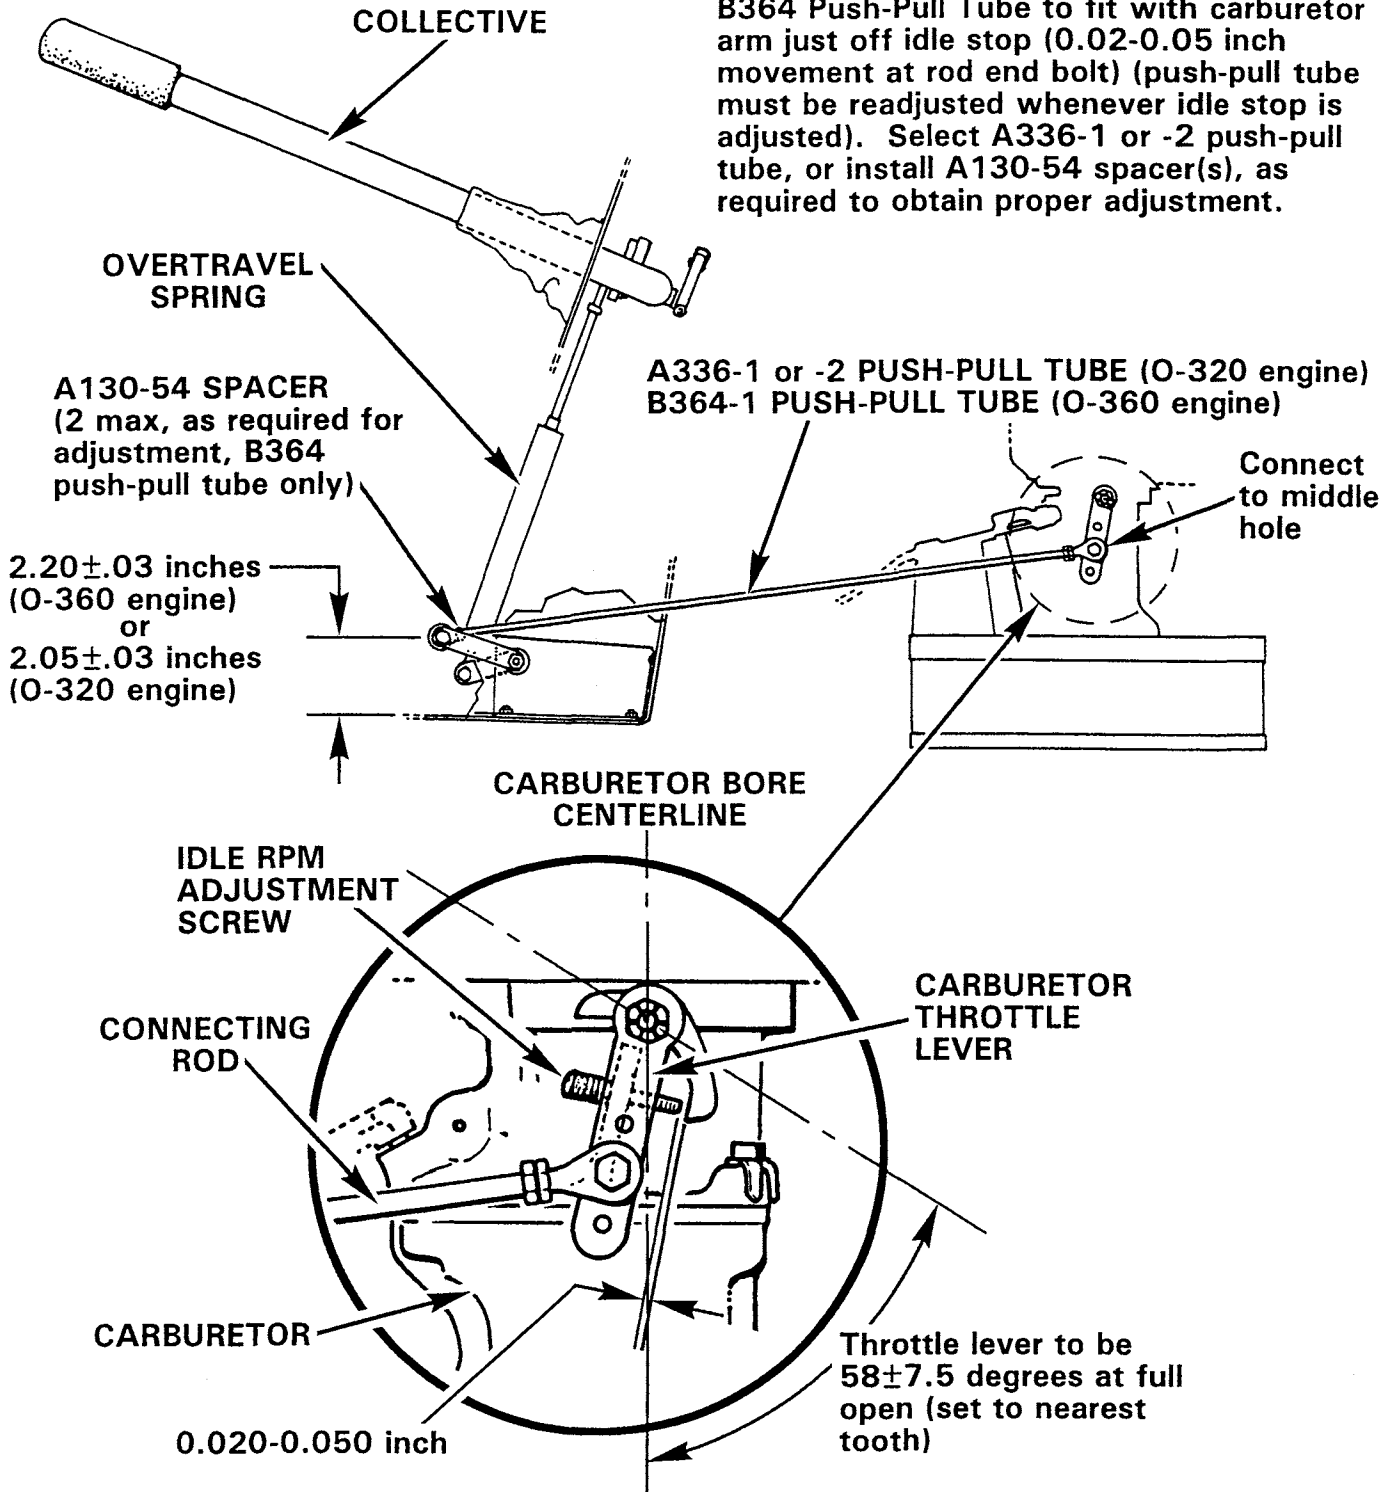

FIGURE 10-8 THROTTLE CORRELATION RIGGING
10.150 Throttle Correlation Rigging (See Figure 10-8)
3. See Figure 10-8. If required, adjust length of throttle connecting rod for 0.020–0.050 inch gap between carburetor butterfly bellcrank and idle RPM adjustment screw when performing step 2.